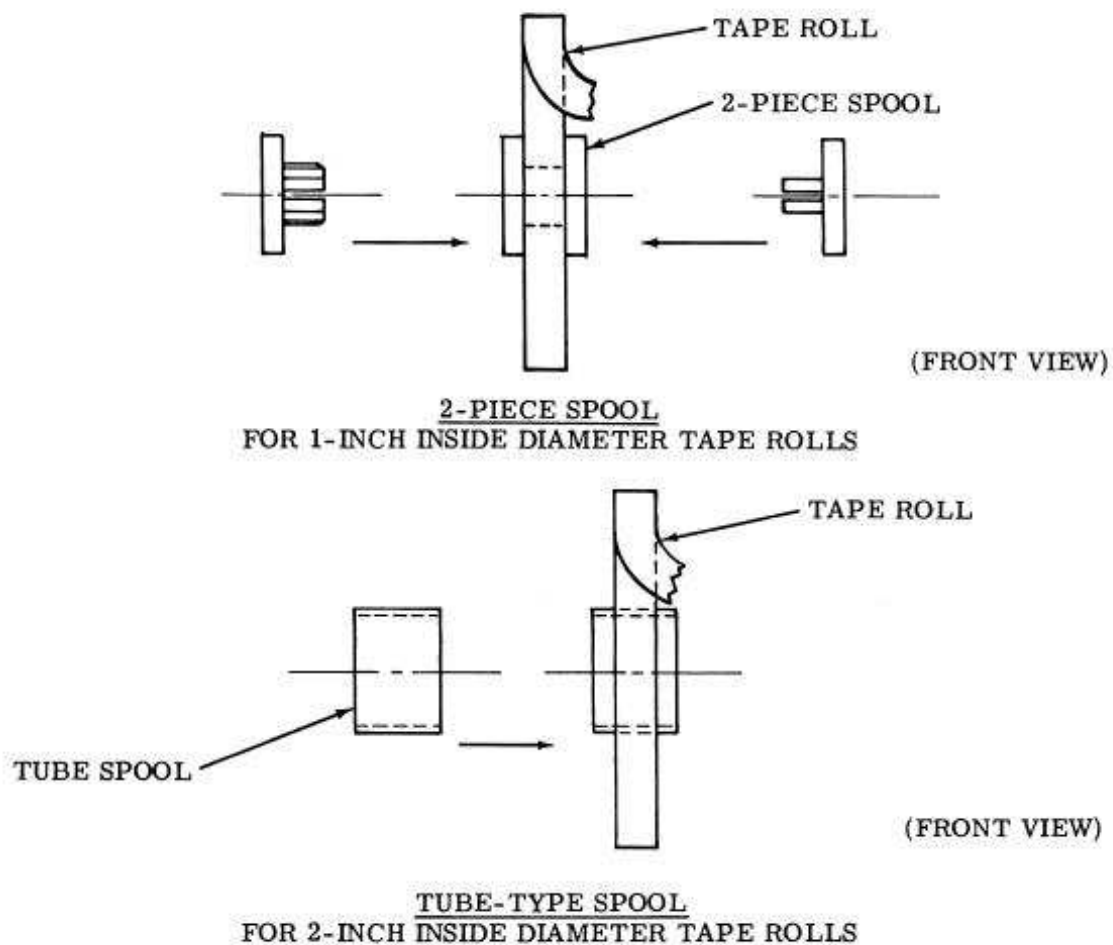

Figure 12 - Tape Roll and Tape Spool Assembly
7.02 Figure 12 illustrates the proper installation of a tape roll onto a tape spool assembly.